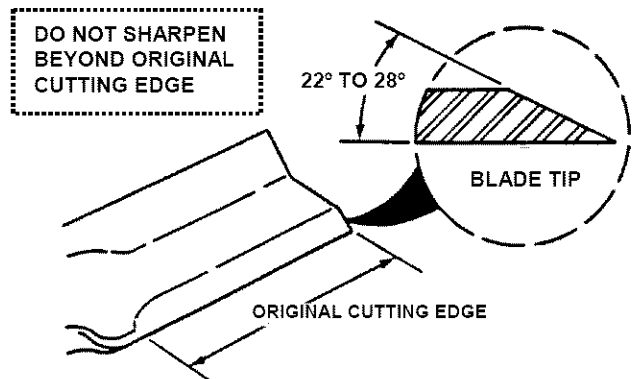

FIGURE 4.17
7. If blade is in good condition, sharpen at 22 to 28 degrees. **DO NOT** sharpen beyond existing cutting edge. See Figure 4.17.
DO NOT attempt any adjustments, maintenance, service or repairs with the engine running. Stop engine. Stop blade. Engage parking brake. Remove key. Remove spark plug wire from spark plug and secure away from plug. Engine and components are HOT. Avoid serious burns, allow all parts to cool before working on machine. Fuel Filler Cap and Vent must be closed securely to prevent fuel spillage. DO NOT attempt to service or charge the battery while it is installed on the YARD CRUISER. Shield the positive terminal with terminal cover located on battery harness. This prevents metal from touching the positive terminal, which could cause sparks. Cables must be connected to battery terminals in the proper position as shown in Figure 4.17.
1. Remove blade(s). See Figure 4.17. Replace blade(s) if it shows signs of excessive wear or damage. See chart below for replacement